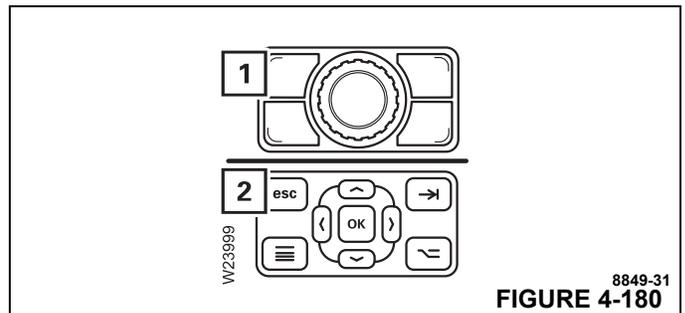

FIGURE 4-180
You can cancel the input at any time. Press button (1, Figure 4-180) or (2).